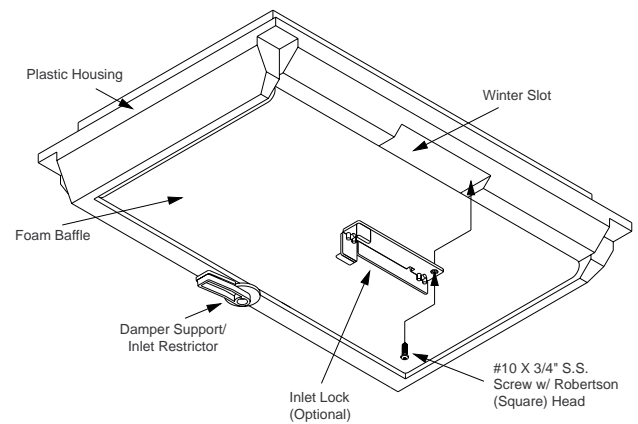

Figure 2 Installing the lock in the winter slot (C1 Inlet shown)
1. Refer to Figure 2. Tilt the locking tab and blocking flap up into position as shown.